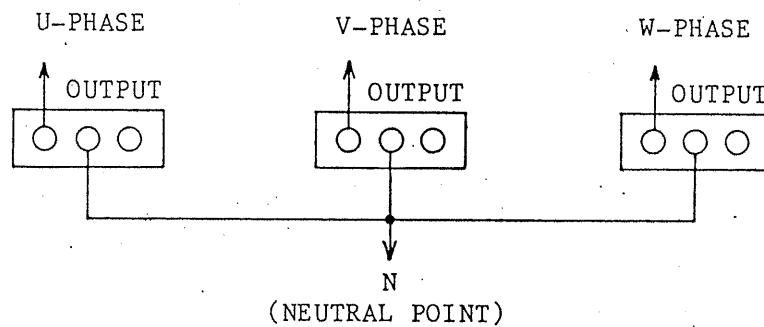

Figure 3-4
(2) Connections between PCC Series instruments and load
- o Connect the outputs of the PCC Series instruments in a star connection system (3-phase 4-wire system), connecting together the neutral points. For the neutral points, be sure to connect together the terminals of the same positions of the OUTPUT terminal blocks. See Figure 3-4.